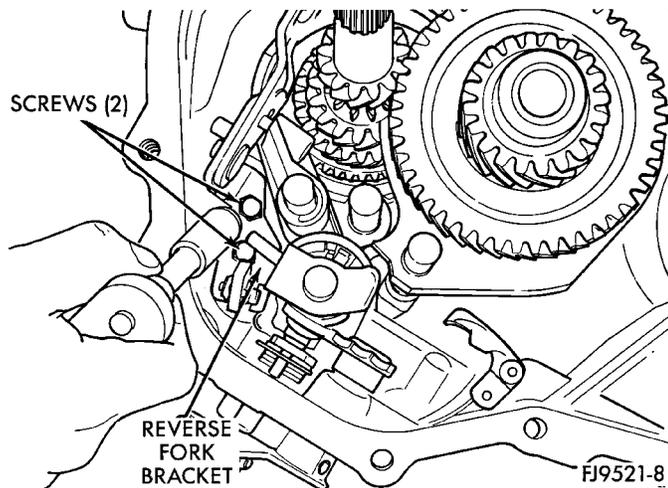

Fig. 74 Reverse Fork Screws
(19) Install reverse fork bracket and reverse lock-out. Tighten screws to 11 N·m (96 in. lbs.) torque (Fig. 73) (Fig. 74).